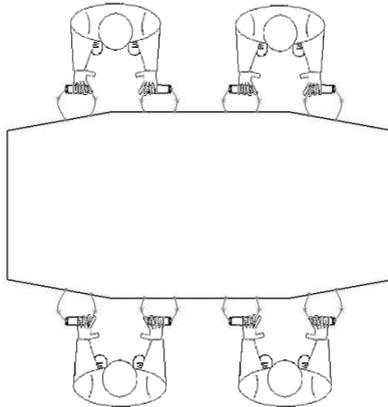

Figure 4
6. at this point at least 4 (four) operators can lift the mattress, using the relevant handles, and place the immobilised patient on the most suitable aid for transport (fig. 4).